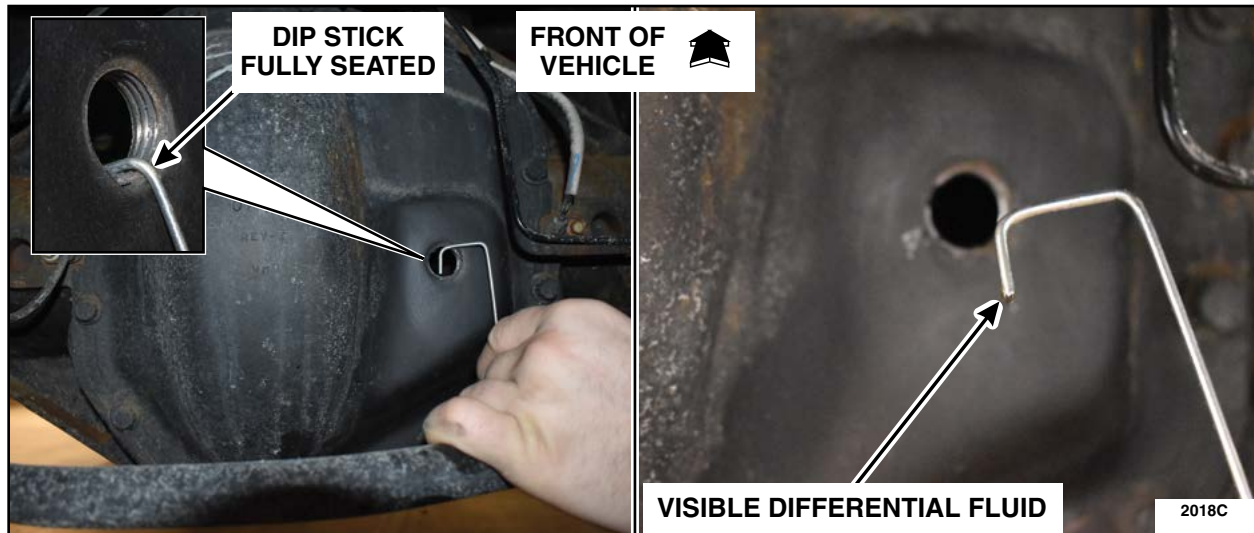

FIGURE 3
4. Wipe fill plug opening and surrounding area to insure it is free from residual fluid before proceeding. Insert the 15 mm length of the dip stick into the rear differential housing making sure that the dip stick is fully seated. Remove the dip stick and check for any visible differential fluid. See Figure 3. Was differential fluid visible on the 15 mm portion of the dip stick?